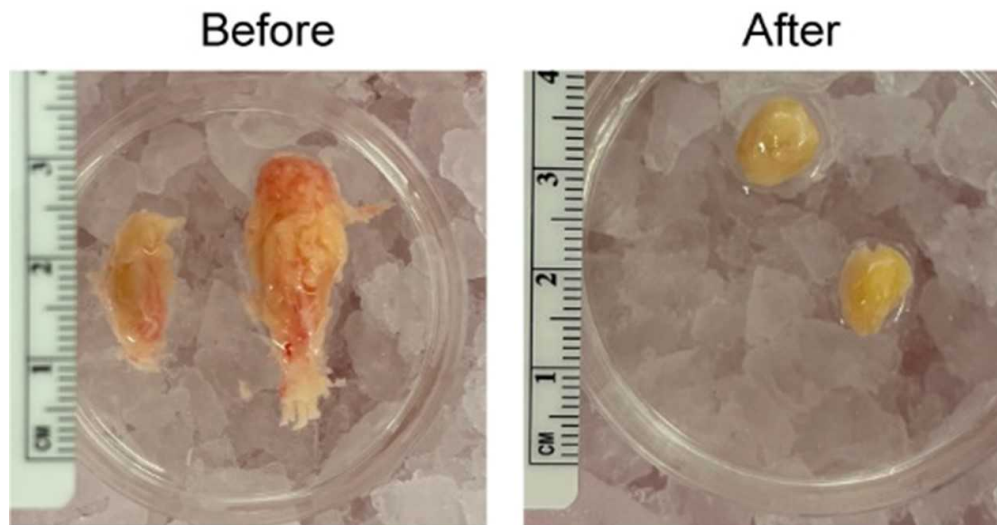

Fig 1.
- 10 Using sterile forceps and scissors, clean DRG by removing excess fat, connective tissue, meninges, epineurium, and nerve/roots (Fig 1). Ensure the DRG is immersed in sterile NMDG-aCSF throughout this process.